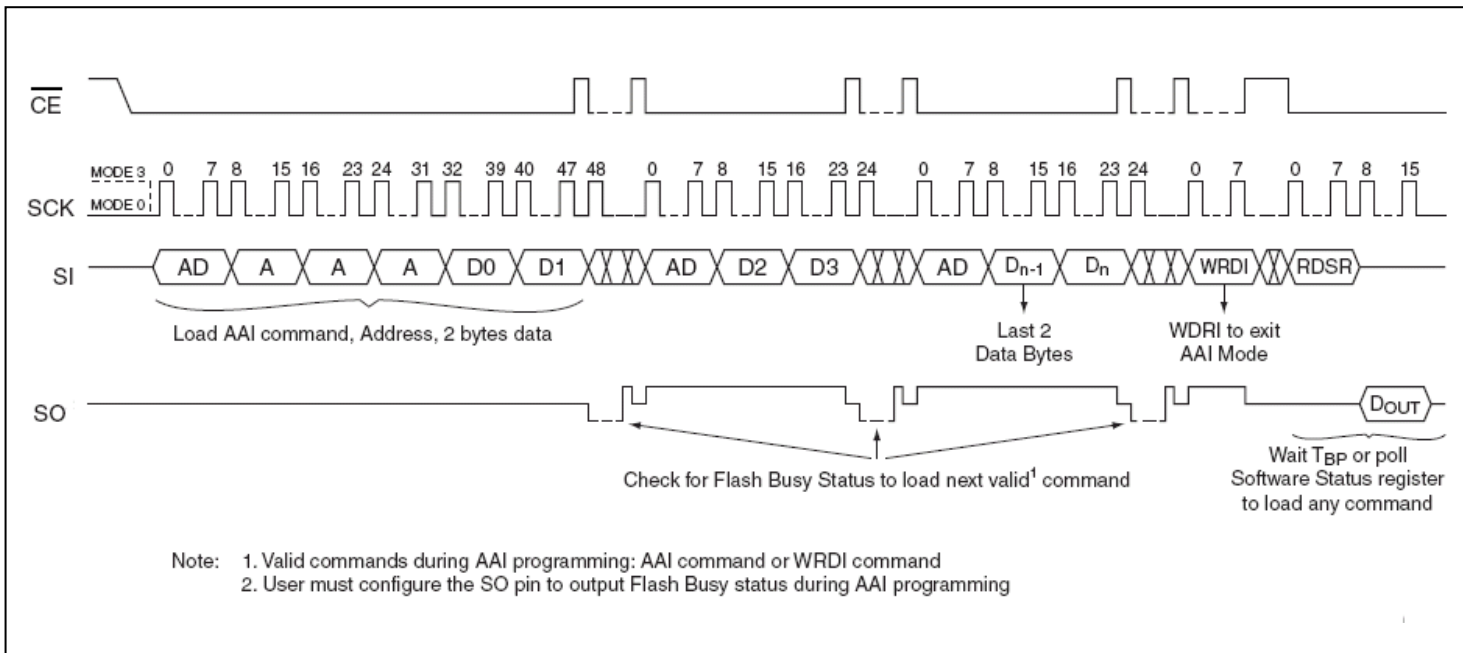
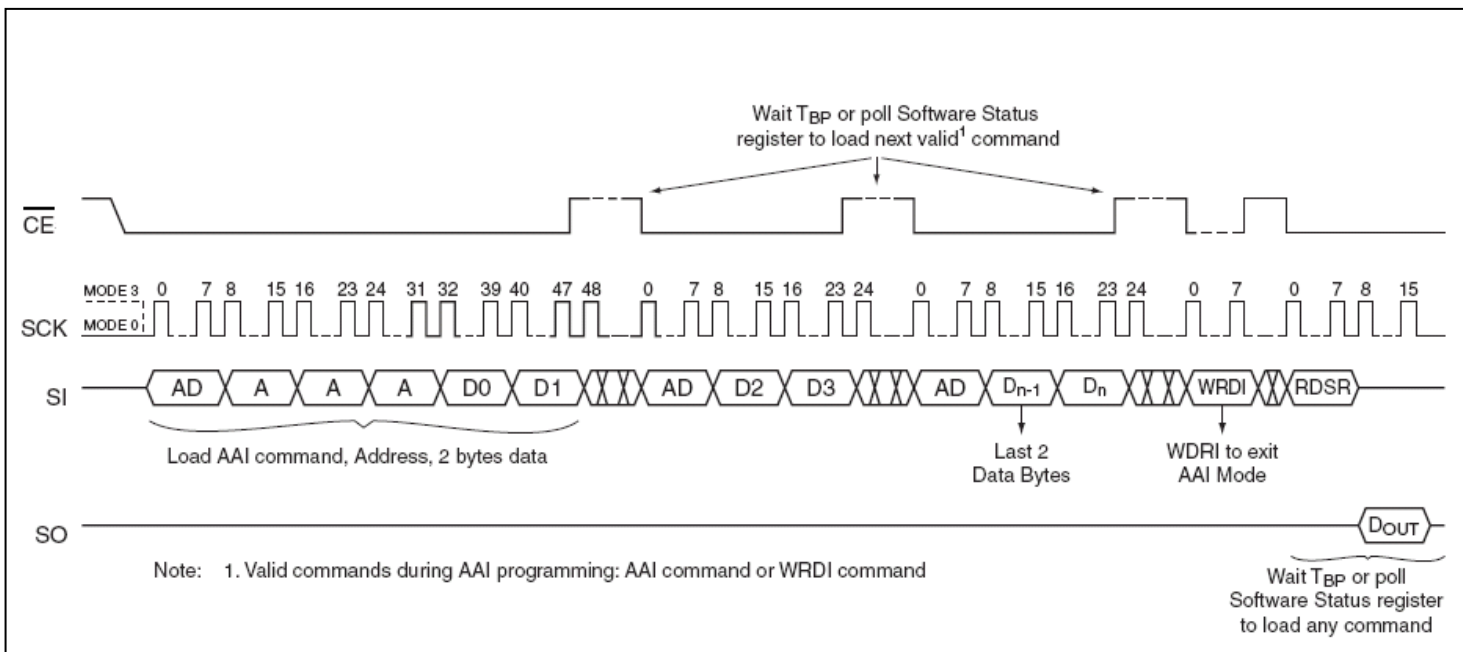

Figure 10: AAI Word Program Sequence with Hardware End of Write Detection
Figure 11: AAI Word Program Sequence with Software End of Write Detection
7) to LSB (bit 0). The first byte of data (D0) will be programmed into the initial address [A23-A1] with A0=0; the second byte of data (D1) will be programmed into the initial address [A23-A1] with A0=1.  $\overline{CE}$  must be driven high before the AAI WORD program instruction is executed. The user must check the BUSY status before entering the next valid command. Once the device indicates it is no longer busy, data for next two sequential addresses may be programmed and so on. When the last desired byte had been entered, check the busy status using the hardware method or the RDSR instruction and execute the WRDI instruction, to terminate AAI. User must check BUSY status after WRDI to determine if the device is ready for any command. Please refer to Figure 10 and Figure 11.